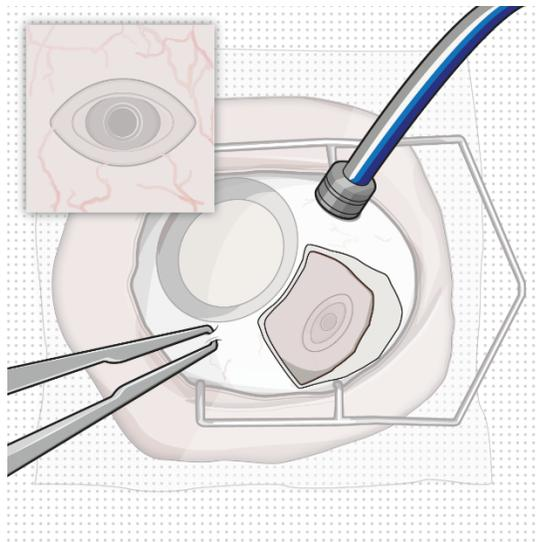

Figure 3
- Create at least a 6 mm by 6 mm peritomy of the conjunctiva and Tenon's capsule around the implant flange (Figure 3).